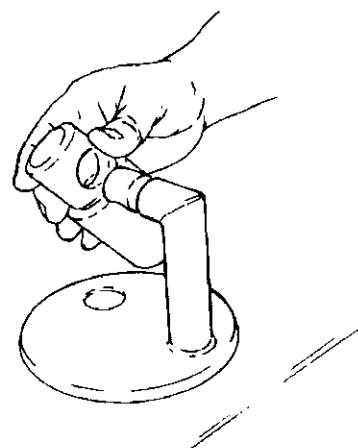

Fig. 4-4
- Put the protective screen on the vacuum float valve and push the valve onto the standpipe (Fig. 4-4).